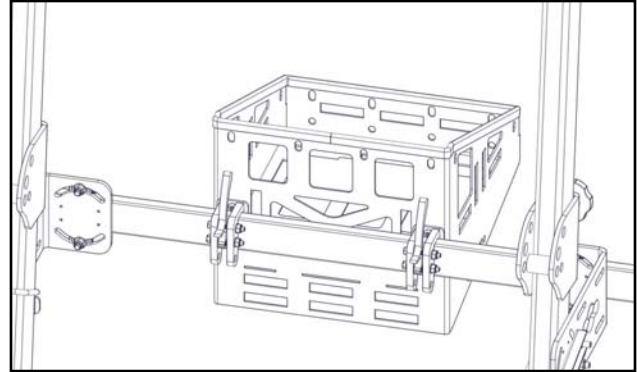

Fig. 7 (attaching a fuel can holder)
7. Fig. 7 shows a fuel can holder installed onto an Artillian ROPS Mounted Tool Bar.